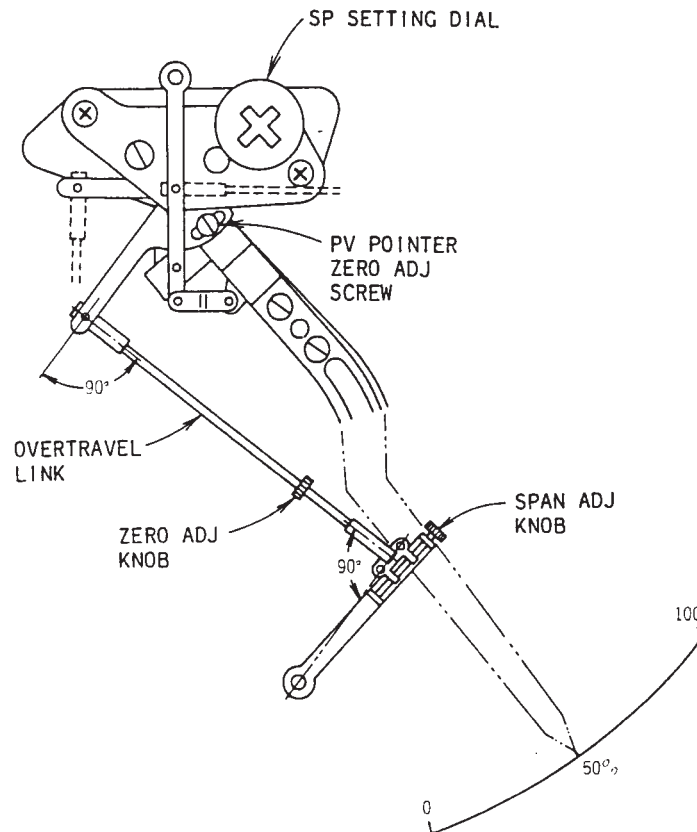

Fig. 8-3
(B) For Temperature Sensor Element (See Fig. 8-3)